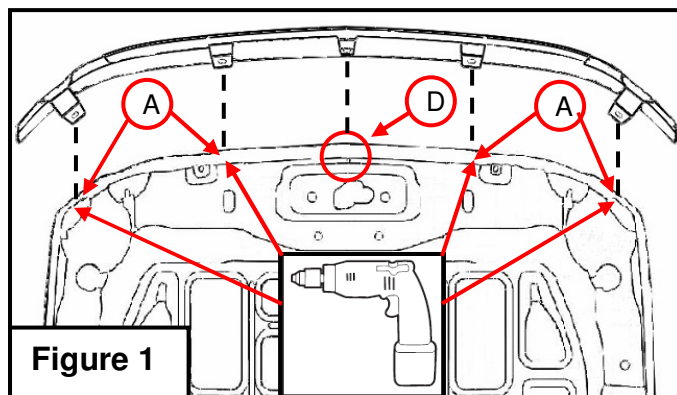

Figure 1
- Trial fit Hood Shield by aligning the center mounting point up with the center factory hood slot. **(Figure 1)** **(NOTE: Some vehicles have a tab in the center mounting slot that will need to be removed for proper hardware alignment.)**
- Remove Putco Hood Shield from hood and drill holes using a 5/32 drill bit. **(Figure 1)** Use the marks made in *Step-3* as a guide for the drilling.
- Re-fit Hood Shield to the factory hood by aligning the rubber well nuts up with the factory slot. **(Figure 1)** Attach Hood Shield to the vehicle by installing the center mounting point first and working outwards. Tighten screws just enough to hold hood shield in place.